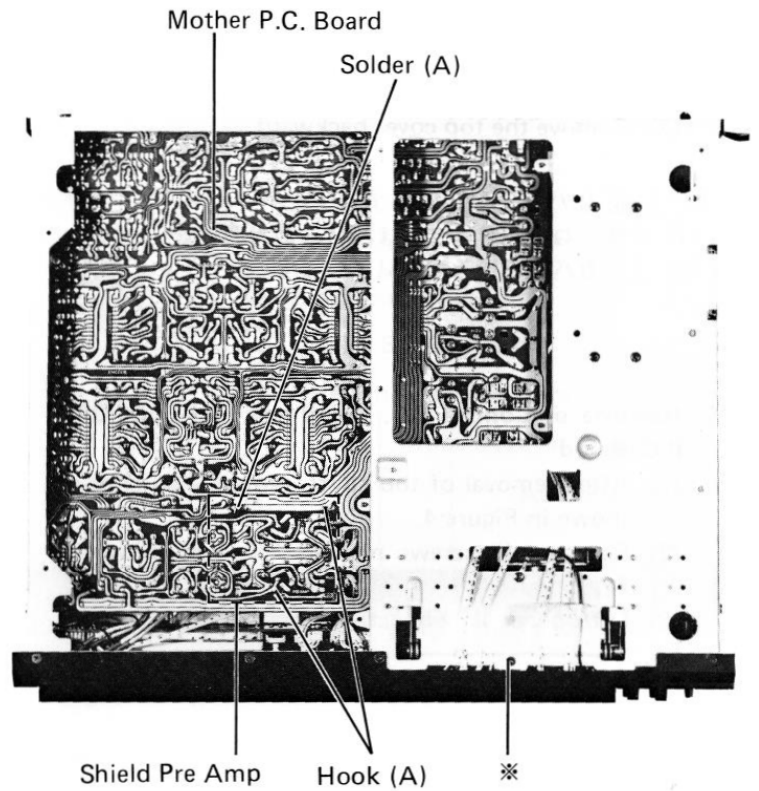

Figure 6
- (1) After removal of chassis side R and bracket panel, disconnect solder (A) and unfasten two hooks (A) as shown in Figure 6, then remove the shield pre-amp.
- (2) Remove three screws marked "※" as shown in Figures 6 and 12.
- (3) Disconnect all connectors from the P.C. Board.